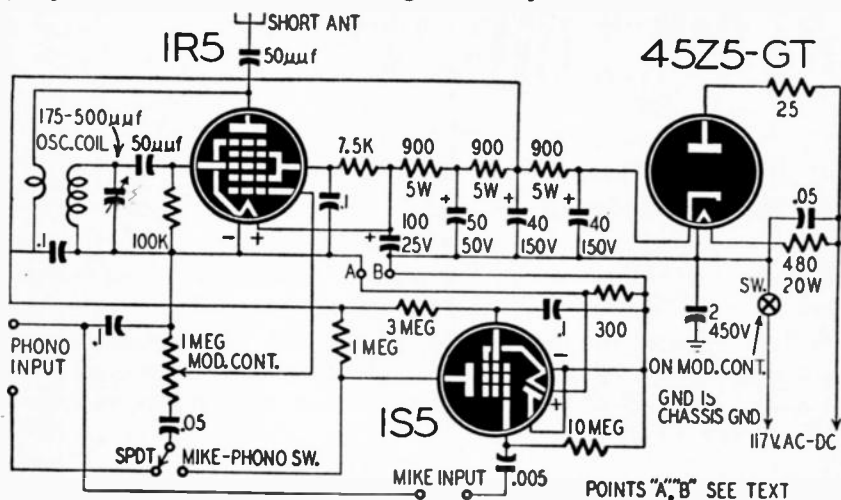

Fig. 212
A. A wireless oscillator is shown in Fig. 212. A high-output phono pickup may be connected directly to the grid circuit of the 1R5. A micro-